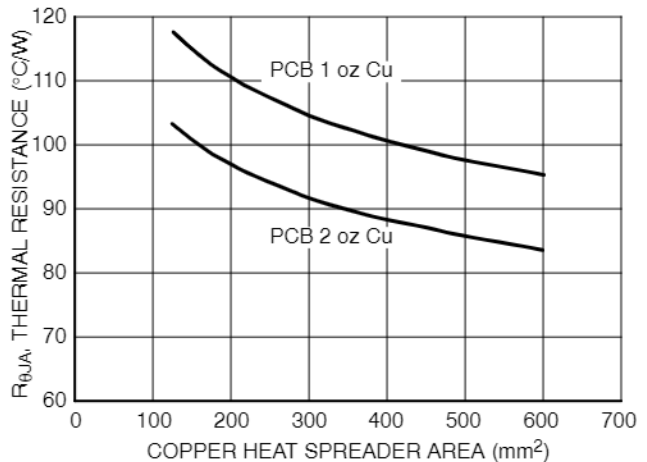

Figure 26. Thermal Resistance vs. PCB Copper Area
Since TJ is not recommended to exceed 150°C, then the NCV8669 soldered on 645 mm2, 1 oz copper area, FR4 can dissipate up to 1.33 W when the ambient temperature (TA) is 25°C. See Figure 26 for RthJA versus PCB area. The power dissipated by the NCV8669 can be calculated from the following equations: